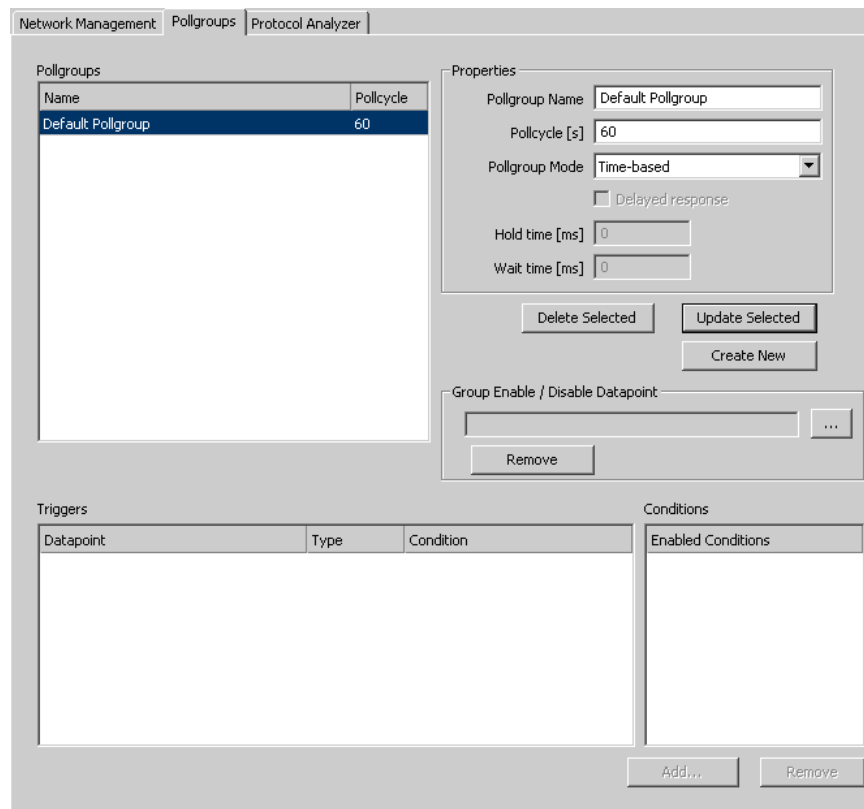

Figure 263: Pollgroup Management dialog.
2. Open the **Pollgroups** tab. This shows the dialog displayed in Figure 263.
2. In the **M-Bus Management** dialog, open the **Pollgroups** tab. This displays the poll groups management tab displayed in Figure 263.